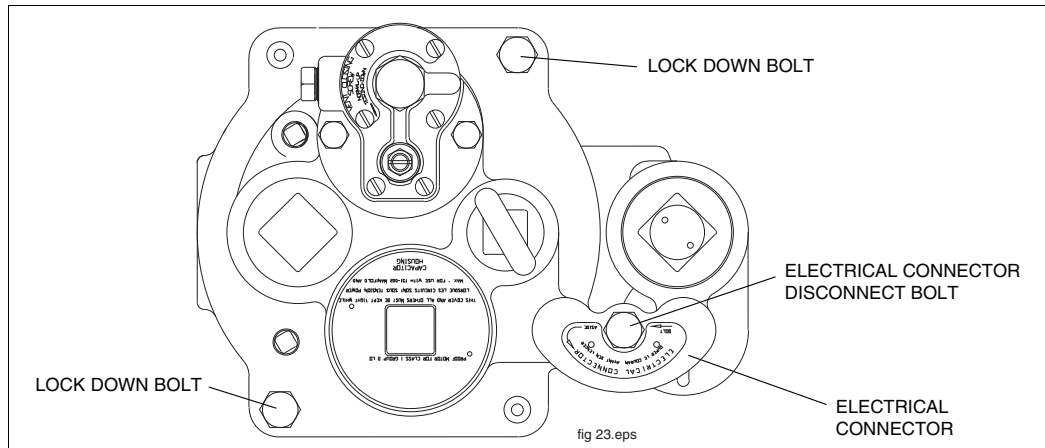

Figure 28. Packer
2. Back out the electrical yoke disconnect bolt (see Figure 28).
3. Back out the electrical yoke disconnect bolt (see Figure 28 on page 33).